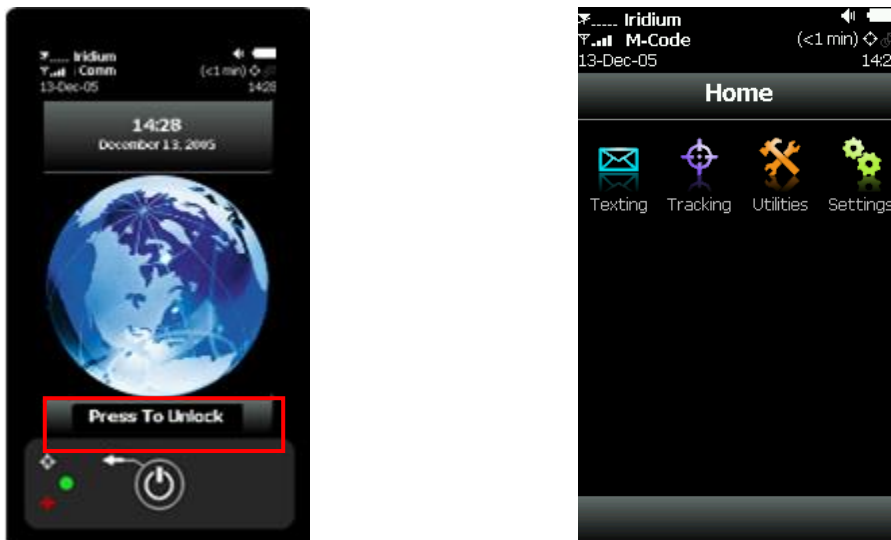

Figure 6: SHOUT mcc Home Screen in M-Code Mode
2. Press **Press To Unlock** (see **Figure 6**).
The *Home* screen displays (see **Figure 6**). Device status symbols display along the top three (3) lines of the *Home* screen. Some symbols will not appear until an event initiates their appearance such as sending or receiving a message.